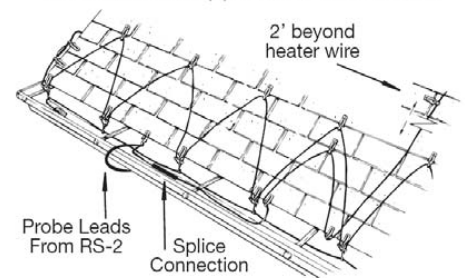

Fig. 4
3.7 The power light indicator (next to the receptacle on the control box) will only be lit, when the roof de-icing cable is energized. **Fig. 4.**